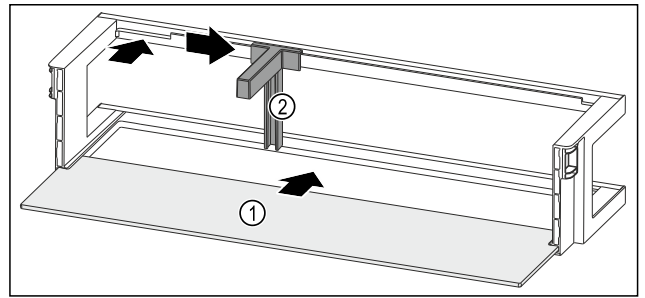

Fig. 94 Door rack with shelf
- Push the shelf Fig. 94 (1) into the side recesses.
- Insert the bottle holder Fig. 94 (2) in the recess.
- Push the bottle holder Fig. 94 (2) to the desired position to the side.